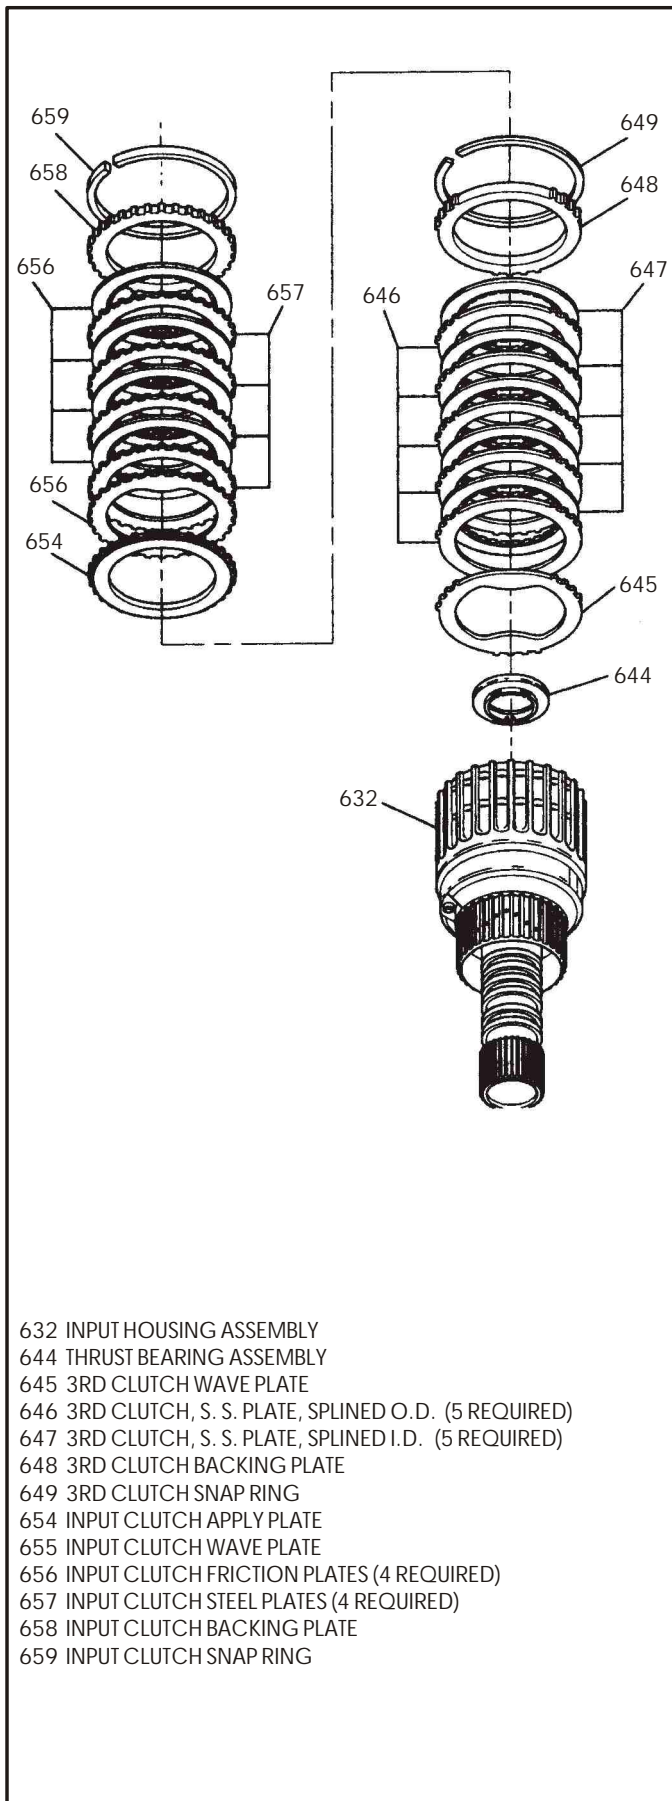
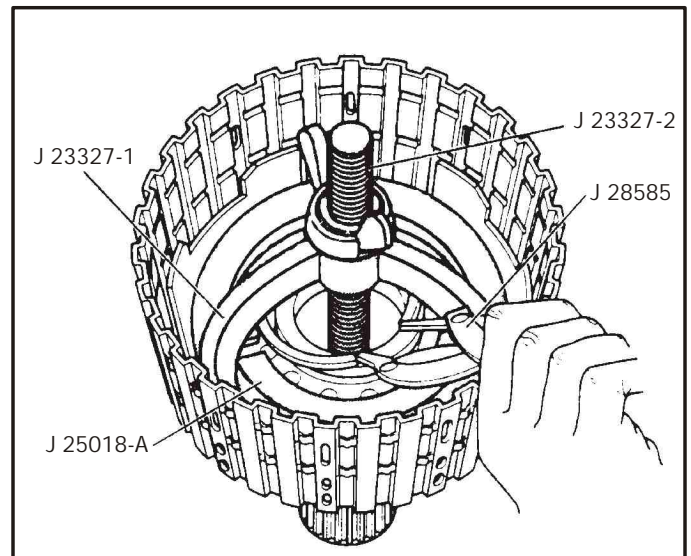

Figure 102
Figure 103
1. Remove and inspect thrust bearing assembly (644) that snaps into the input housing, shown in Figure 102.
2. Remove input clutch snap ring (659) and the input clutch backing plate (See Figure 102).
4. Remove input clutch apply plate (654).
5. Remove the 3rd clutch snap ring (649), and the 3rd clutch single sided plates (646) and (647).
6. This unit uses the 10 pack single sided third plates, as shown in Figure 102.
7. Remove the 3rd clutch wave plate (645).
8. Using a spring compressor, compress the spring retainer inside of the housing and remove the snap ring, as shown in Figure 103.